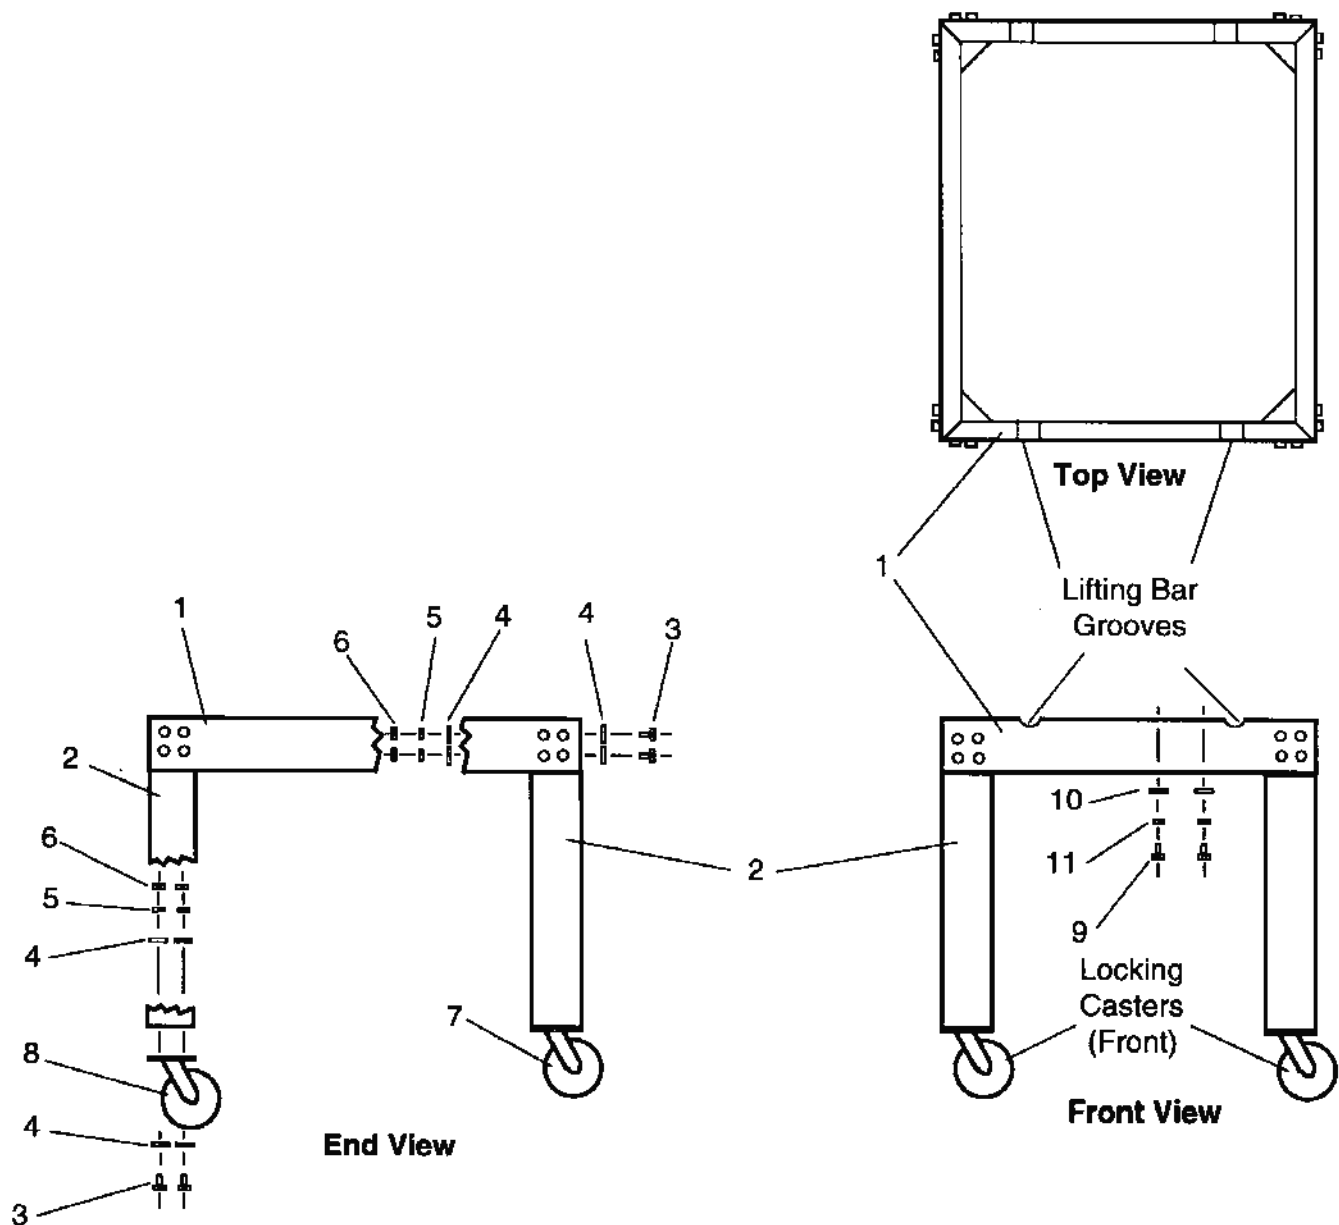

Figure 2-2
1. Locate the carton containing the oven base. Remove and inventory the contents. Refer to the correct parts list below and also to Figure 2-2.
2. Lay Frame Assembly (Item 1, Figure 2-2) upside down on the floor and attach the four Leg Assemblies (Item 2) using 32 Hex Head 3/8"-16 x 1" Bolts (Item 3), 64 Flat 3/8" Washers (Item 4), 32 Lockwashers 3/8" (Item 5) and 32 Hex 3/8"-16 Nuts (Item 6). Refer to Figure 2-2.
3. Attach four casters to the four legs. There are two locking casters (Item 7) and two non-locking casters (Item 8). Assemble the 2 locking casters on a side of the stand with 2 lifting bar grooves (Refer to Figure 2-2). The side where the locking casters are installed then becomes the front of the stand. Attach the four casters using 16 Hex Head 3/8"-16 x 1" Bolts (Item 3), 32 Flat 3/8" Washers (Item 4), 16 Lockwashers 3/8" (Item 5) and 16 Hex 3/8"-16 Nuts (Item 6). Refer to Figure 2-2.
8. Secure the oven to the base by screwing the four remaining bolts with lockwashers and flat washers up through the 2 holes on the right and left sides in the base and into the threaded holes in the oven bottom. Refer to Figure 2-2.